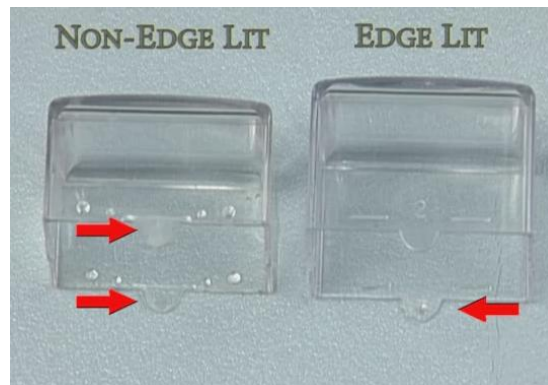

Figure 17
11. The next piece is the lens cap. Hold the button assembly with the top side up while looking at the OLED display. On two sides of the lens cap you can see two tabs. These tabs are the top and bottom of the lens cap and will need to be installed in the top and bottom location of the switch covering the OLED and lens holder. See Figure 17.